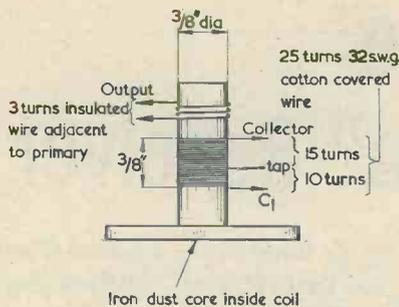

Fig. 2. Details of the oscillator coil
- L₁ See Fig. 2
in Fig. 2. Stray capacitances may necessitate a slight adjustment to the number of turns, but the dust core and trimmer should allow a sufficiently wide tuning range to enable the optimum frequency to be found without trouble. It should not be necessary to have the core protruding from the coil, if made as described. In fact, oscillations may be weakened if the core is not inside the coil. The prototype still worked with the core removed, but with reduced amplitude.